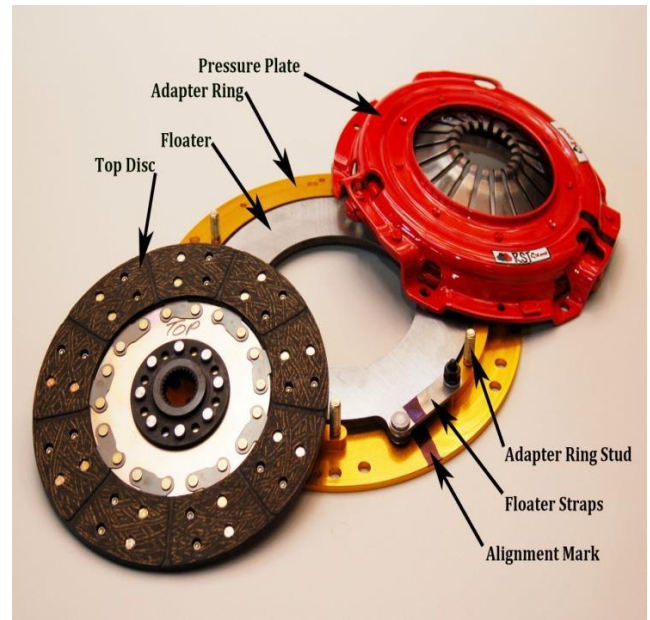

Figure 2
- 2) Lift off the pressure plate and top disc from the adapter ring and set aside. Your adapter ring may be gold, red or black depending on your specific application. Figure 2.